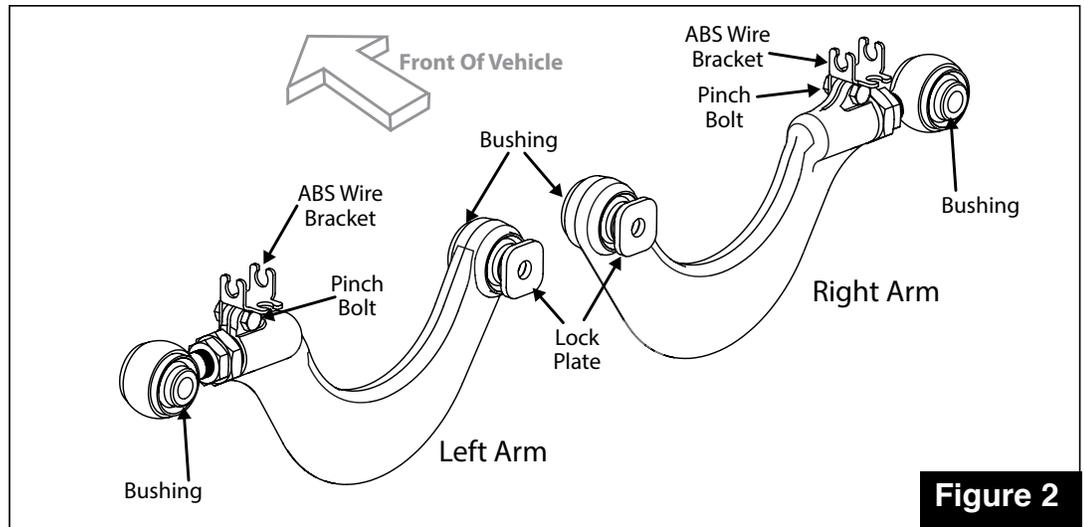

Figure 2
7. Install SPC camber arm using OE hardware. Replace OE cam plate with SPC lock plate to center inboard bolt, see **Figure 2**. Loosely tighten each bolt.
9. When desired camber specification is achieved, tighten small jam nut firmly against large hex adjuster. Orient ABS wire guide bracket is as shown in **Figure 2** and torque pinch bolt to 20 ft-lb [27 Nm].